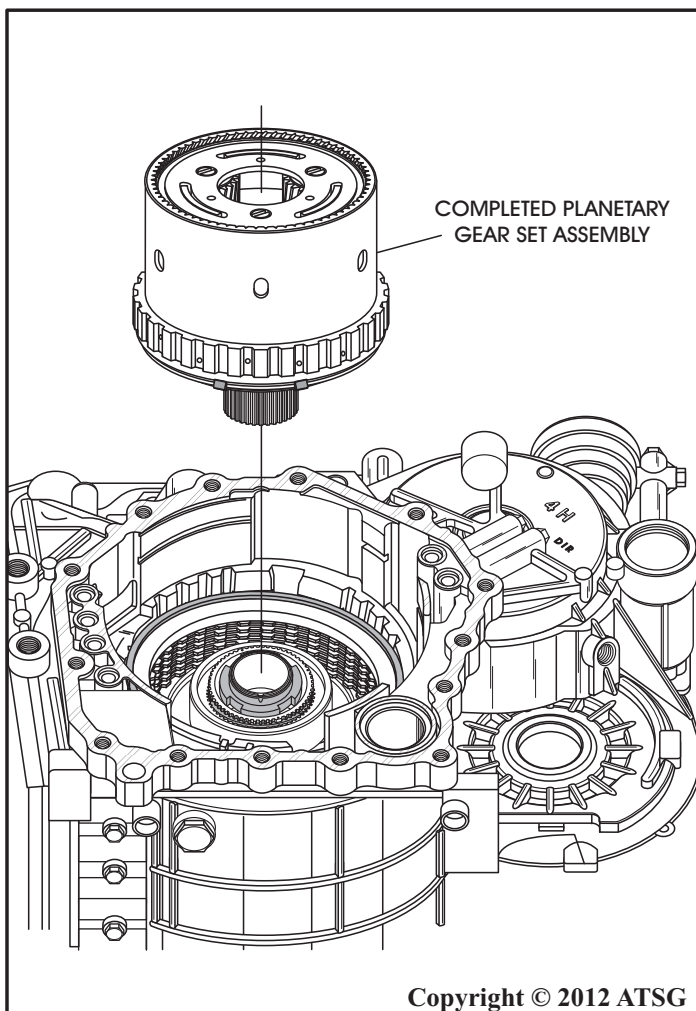

Figure 255
30. With 2nd clutch pack removed, install completed planetary gear set and low sprag (OWC-1) assembly into the case, as shown in Figure 255, by rotating to engage the low/reverse frictions and the sprag onto the inner race.